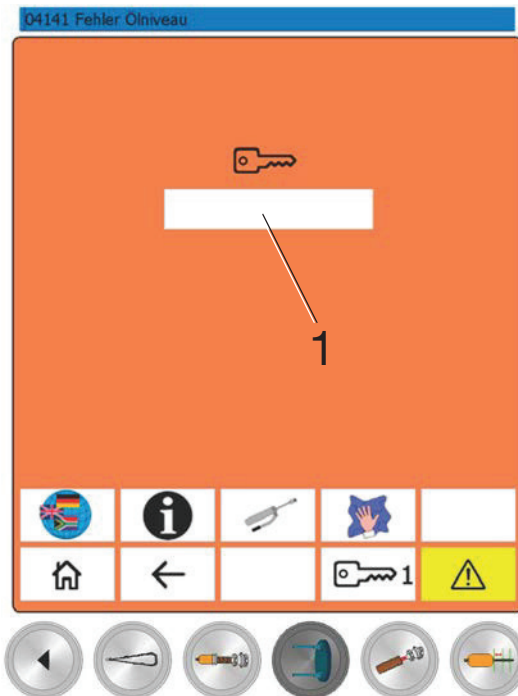

Fig. 4-7 Password input and icon selection screen (here: Operator menu level)
- The password input and icon selection screen of the active menu level appears (Fig. 4-7).
- Press the password input field (1, Fig. 4-7).